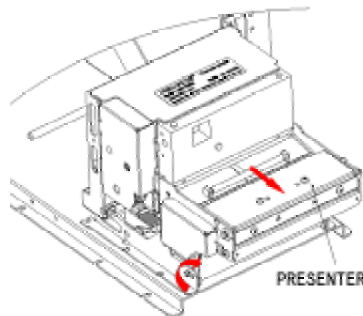
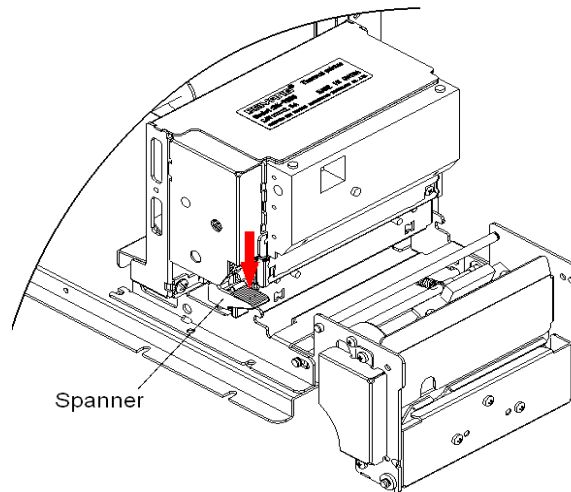

Fig. 5.1-1 Cleaning the Print head
Fig. 5.1-2 Cleaning the Print head
2. Referring Fig.5.1-1, hold the front end of Presenter with hands and pull it forcibly according to the arrow shown in the Fig. below so that Presenter could turn to the position as in Fig.5.1-2;
3. Press the spanner slightly with a finger according to the red arrow shown in Fig.5.1-2 until the platen is away from the cutter unit;